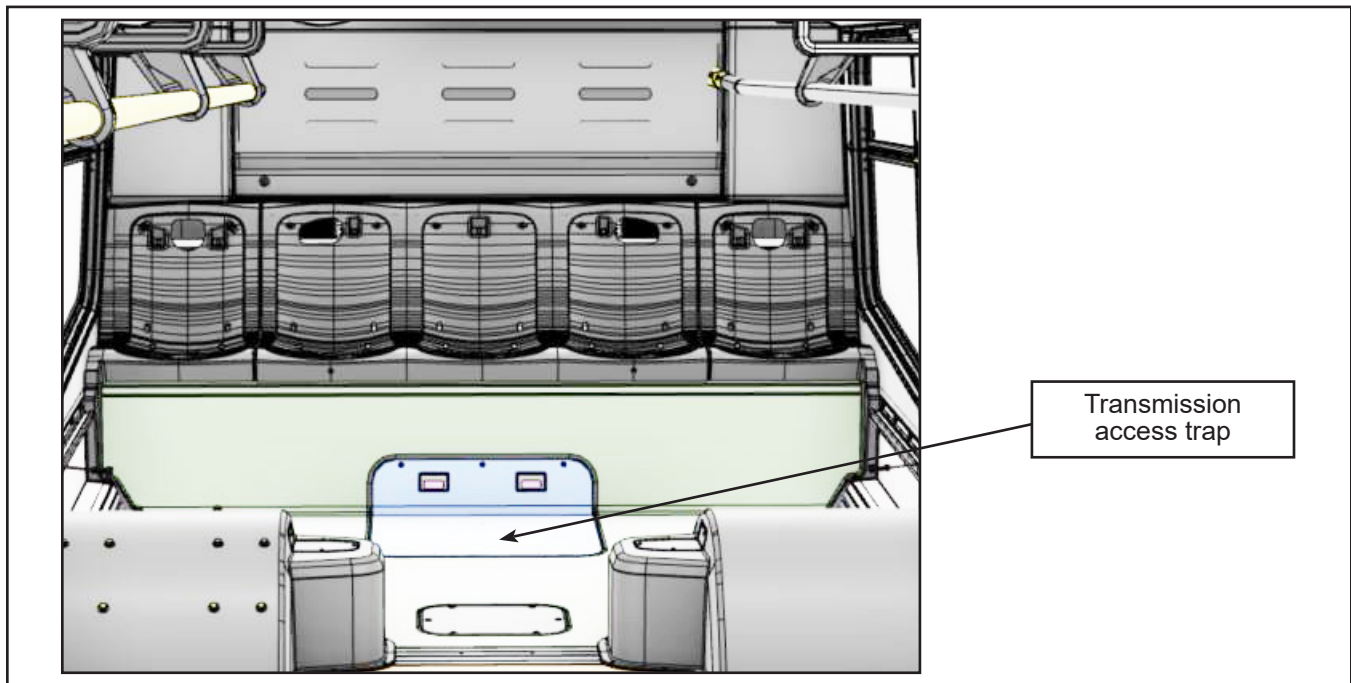

Figure 1 - Transmission Access Trap
- 1.4. Locate and open the transmission access trap at the rear of the vehicle (Figure 1).